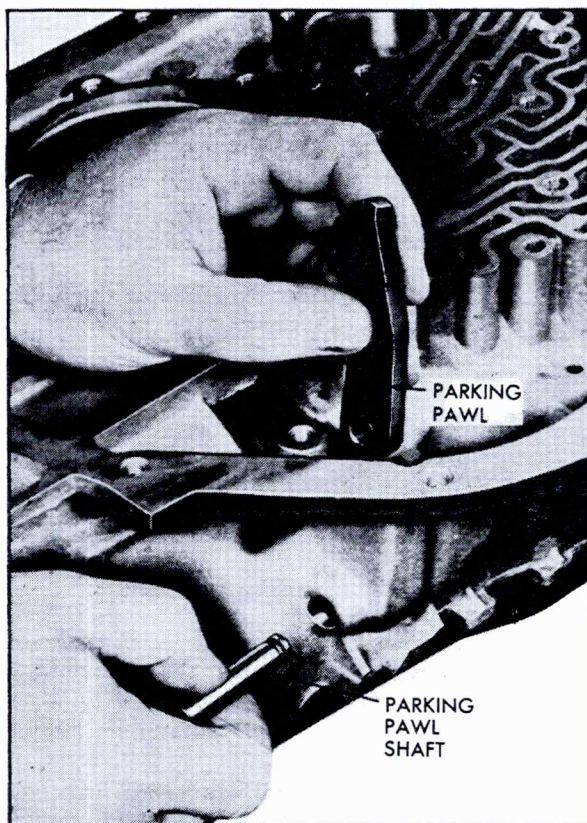

Fig. 7-106 Installing Parking Pawl and Shaft
1. Install parking pawl, tooth toward center of transmission, and install parking pawl shaft, Fig. 7-106.